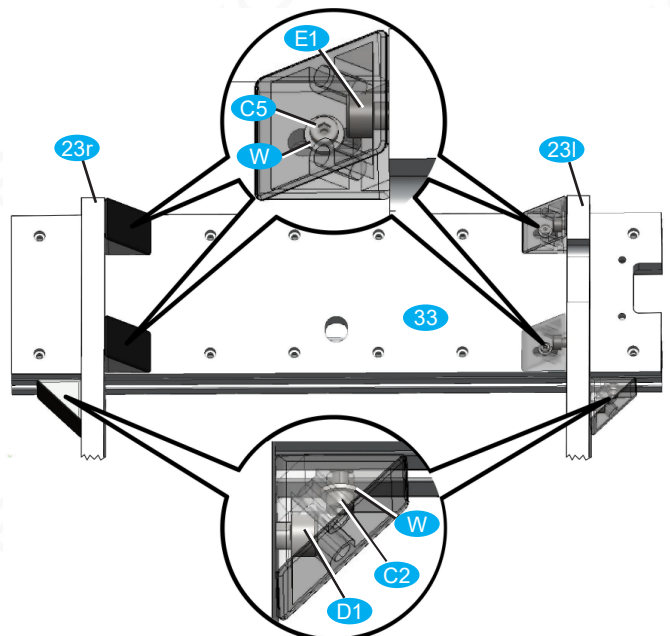

Fig. 11: Installation of the portal beam on the portal cheeks
- Place the portal beam on the two portal walls as shown in Figure 11 and screw all angles to the portal walls with cylinder screws M8x16 **D1**; Slightly counter-tighten the screws